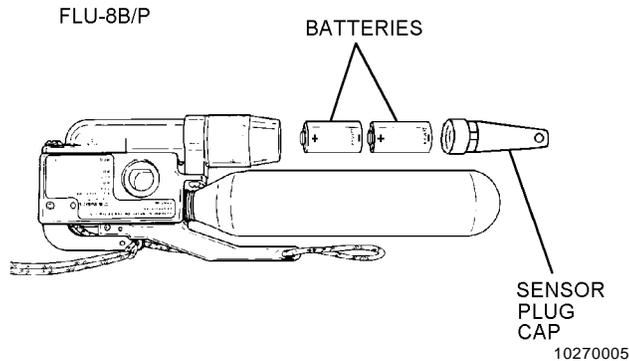

Figure 27-5. Battery Removal
1. Remove sensor plug cap using a standard 3/4-inch wrench. See figure 27-5.
5. Reinstall or replace batteries if needed. Torque FLU-8B/P sensor plug cap to 15 lb-in using 3/4-inch socket and torque wrench. Ensure that date of installation and date of manufacture are recorded on appropriate form in accordance with OPNAVINST 4790.2 Series. See figure 27-5 for proper battery arrangement and refer to paragraph 27-56 for battery replacement.